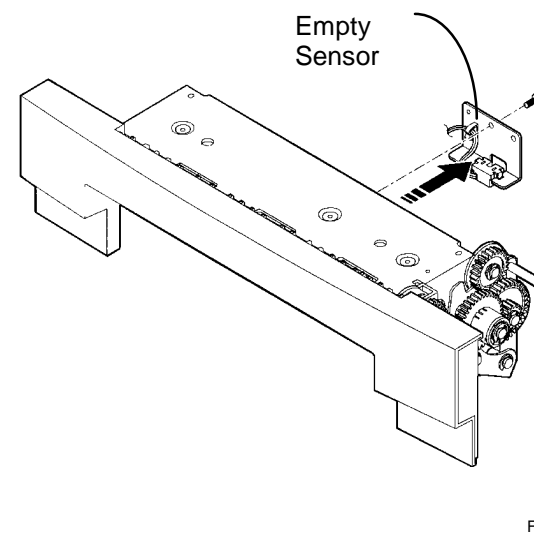

Figure 1. Removing the Tray 2 Empty Sensor
2. (Figure 1): Remove the screws and remove the Tray 2 Empty Sensor.